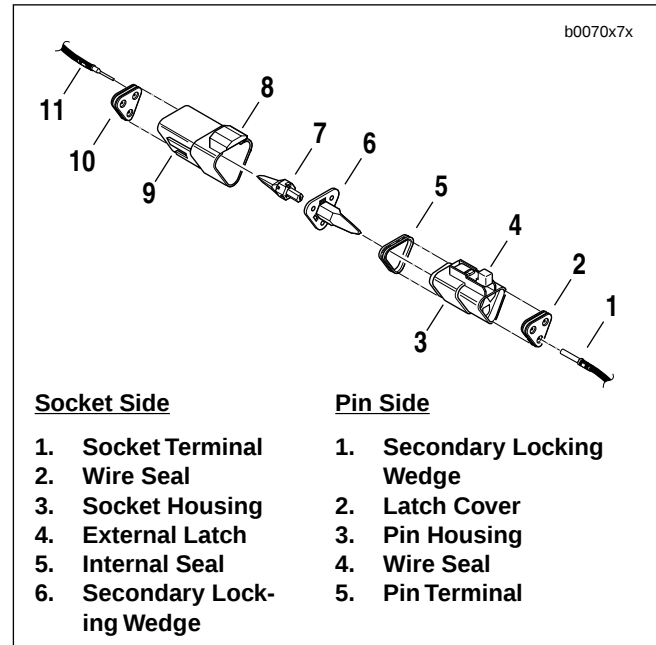

Figure B-1. 3-Pin Connector
1. See Figure B-1. Remove the secondary locking wedge (6). Insert the blade of a small screwdriver between the socket housing and locking wedge inline with the groove (inline with the pin holes if the groove is absent). Turn the screwdriver 90° to pop the wedge up.
2. Gently depress terminal latches inside socket housing (3) and back out socket terminals (1) through holes in rear wire seal (2).
3. Fit rear wire seal (2) into back of socket housing, if removed. Grasp socket terminal approximately 1.0 in. (25.4 mm) behind the contact barrel. Gently push sockets through holes in wire seal into their respective chambers. Feed socket into chamber until it "clicks" in place. Verify that socket will not back out of chamber; a slight tug on the wire will confirm that it is properly locked in place.
4. Install internal seal (5) on lip of socket housing, if removed. Insert tapered end of secondary locking wedge (6) into socket housing and press down until it snaps in place. The wedge fits into the center groove within the socket housing and holds the terminal latches tightly closed.
1. See Figure B-1. Remove the secondary locking wedge (7). Use the hooked end of a stiff piece of mechanic's wire or a needle nose pliers, whichever is most suitable.